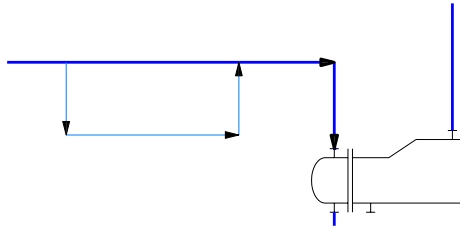

Figure 2-50 Loop created on line connecting the steam inlet nozzle
13. Choose the **Secondary Line Segment** tool from the **Lines** tab in the **TOOL PALETTES - P&ID PIP** and create a loop on the line connecting the steam inlet nozzle of the heat exchanger, as shown in Figure 2-50.